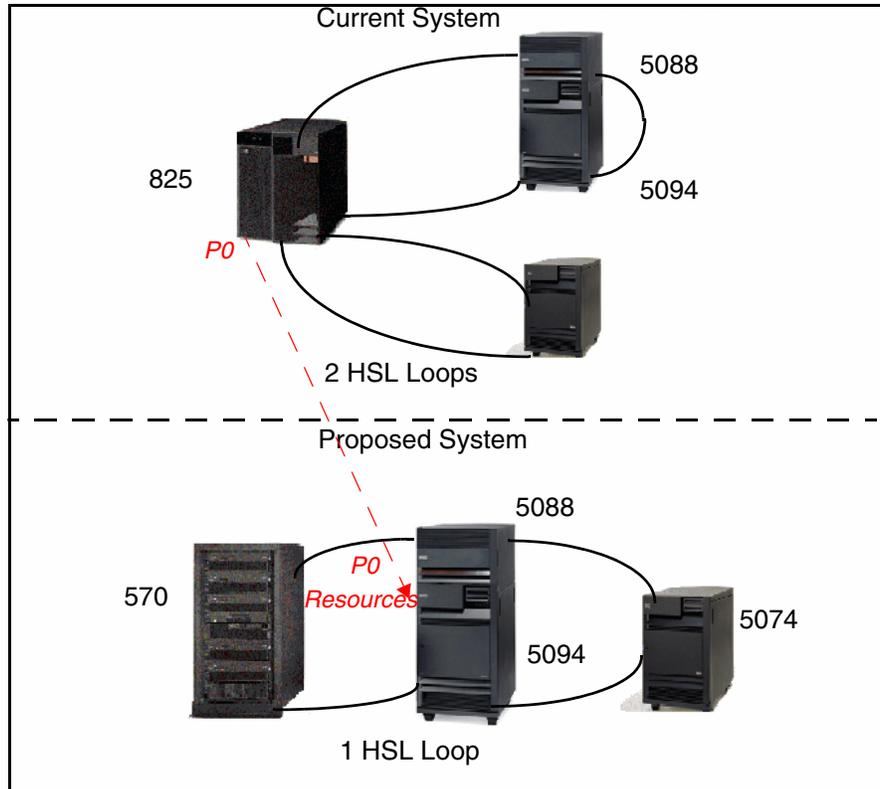

Figure 9-18 HSL cabling second scenario
- In the second scenario, there are also enough available disk slots and PCI slots in the 5094 to relocate the (15) of the Primary partition during the migration. However, there are other considerations in this scenario. The 825 has three HSL Loops and the 570 System i5 only has one. It is important to consider the HSL cabling between different technology towers to avoid performance degradation. For instance, the 5074 uses HSL1, whereas the 5094 and 5088 uses more recent HSL2 technology. In the original 825 configuration they were placed in different loops to help with this consideration but now there is only one loop. The solution is to place the 5074 in between the 5094 and 5088, minimizing the effects of any contention caused by the slower 5074 hardware. See Figure 9-18.